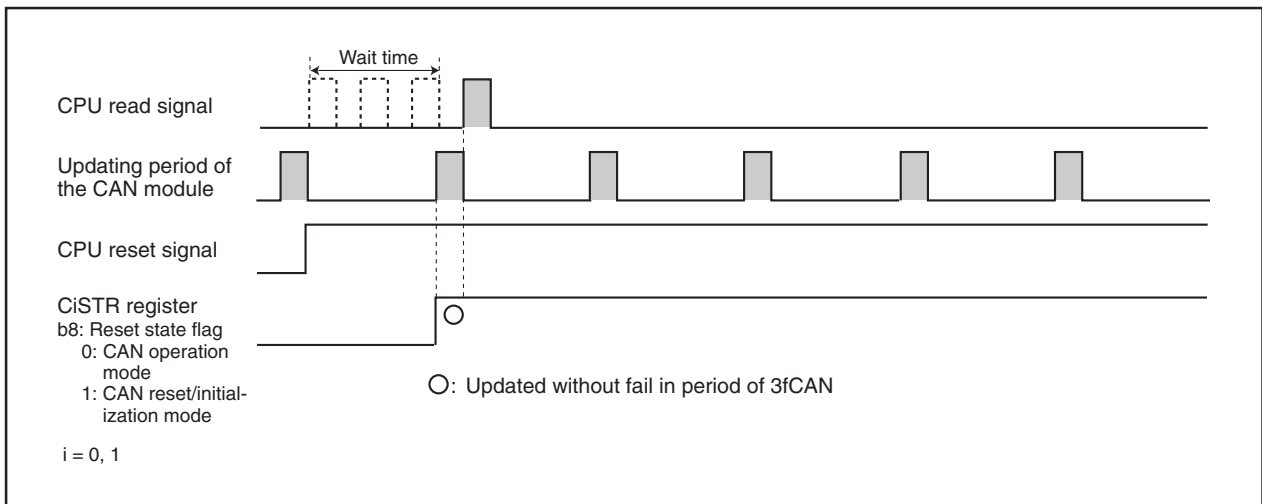

Figure 23.4 With a Wait Time of  $3f_{CAN}$  Before CPU Read
- (a) There should be a wait time of  $3f_{CAN}$  or longer (see **Table 23.1 CAN Module Status Updating Period**) before the CPU reads the CiSTR register. (See **Figure 23.4 With a Wait Time of  $3f_{CAN}$  Before CPU Read.**)